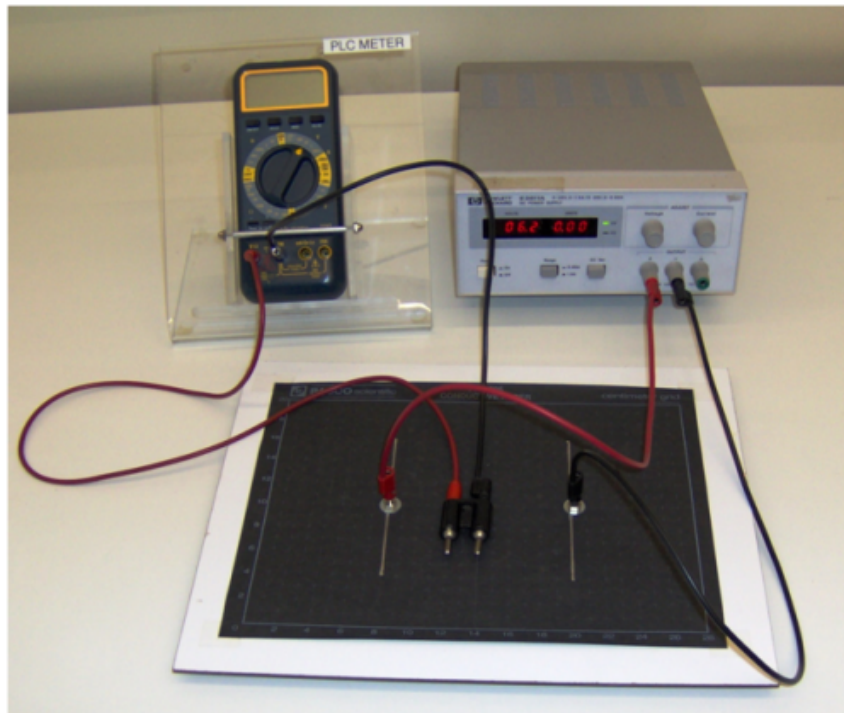

Figure 7: Two lead probes for measuring the direction of the E-fields
- 7 Connect the ends of the leads of the multimeter to the two-lead holder (see Figure 7), which makes the leads a fixed distance apart. Placing and orienting the leads of the holder on the graphite sheet surface to read the maximum voltage on the multimeter will show the direction of the electric field. Determine the direction of the field and indicate the direction on your sketch from step 6. Summarize your results.